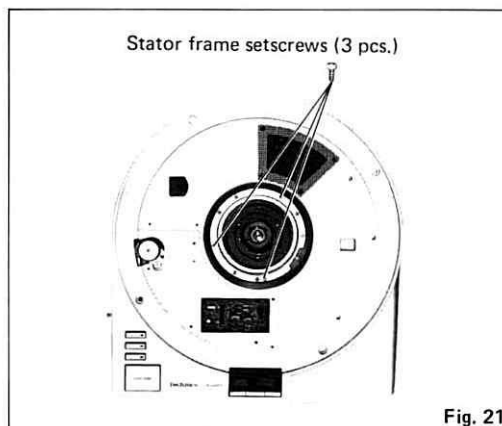

Fig. 21
2. Turn the main body up and remove 3 setscrews of the stator frame. (See Fig.21.)